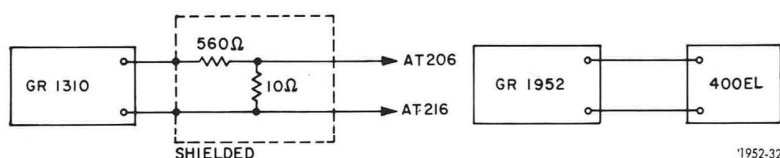

Figure 6-8. High-Pass, High-Q Section Test Set-Up.
a. Remove the lead between AT205 and AT206 on the high pass filter board (see Figures 6-10 and 6-14), and make the set-up of Figure 6-8.